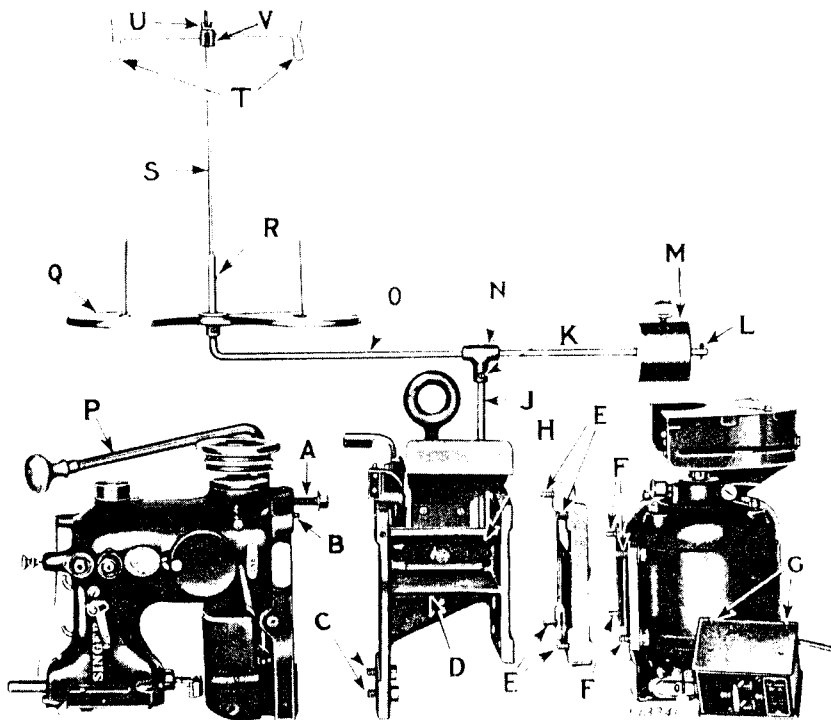

Fig.3. Showing Relative
Insert the bolt (A) in the machine base as shown in Fig.3,